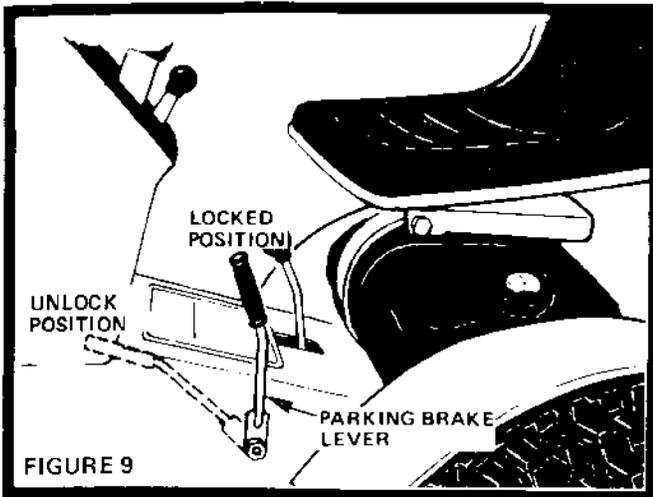

FIGURE 9
1. Place Parking Brake Lever in locked position (Fig. 9).